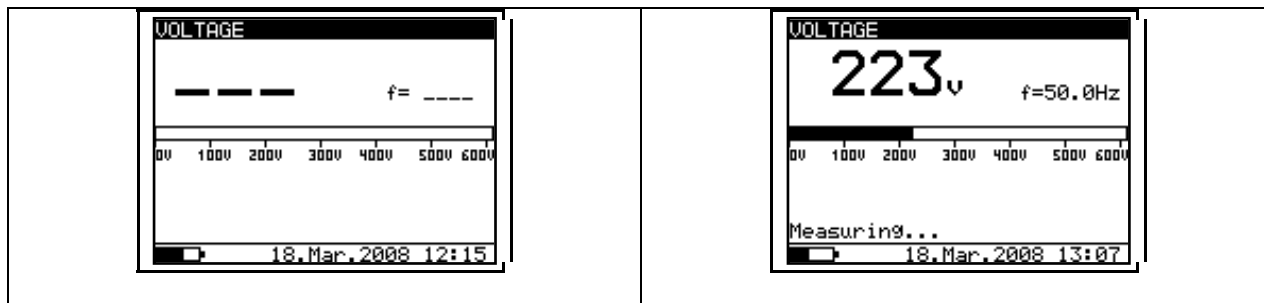

Fig. 10. Voltage function display states
Selecting this function displays the following states (initial state and state with results after completion of the measurement). See **fig. 10** below.
- The result (see the right picture in **Fig 10**) can optionally be saved by pressing the **MEM** key twice, see chapter 6.1. Store, Recall and Clear Operation.